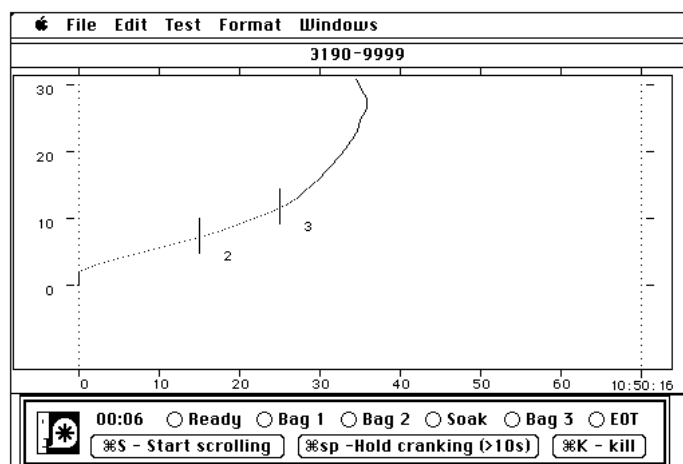

Figure 17
- 341 To start scrolling, simultaneously press <Command-S> and crank the engine. The crank time will be displayed on the left side of the control dialog box. See Figure 17.